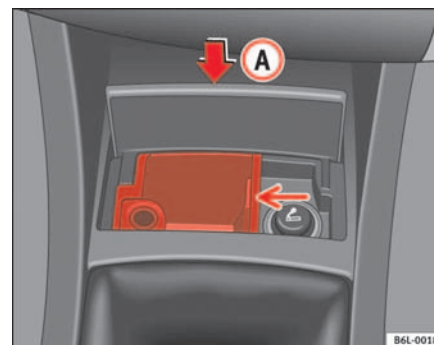

Fig. 84 Front ashtray
- Press the lower part of the ashtray cover (A) ⇒ fig. 84 and it will open automatically with a spring action.